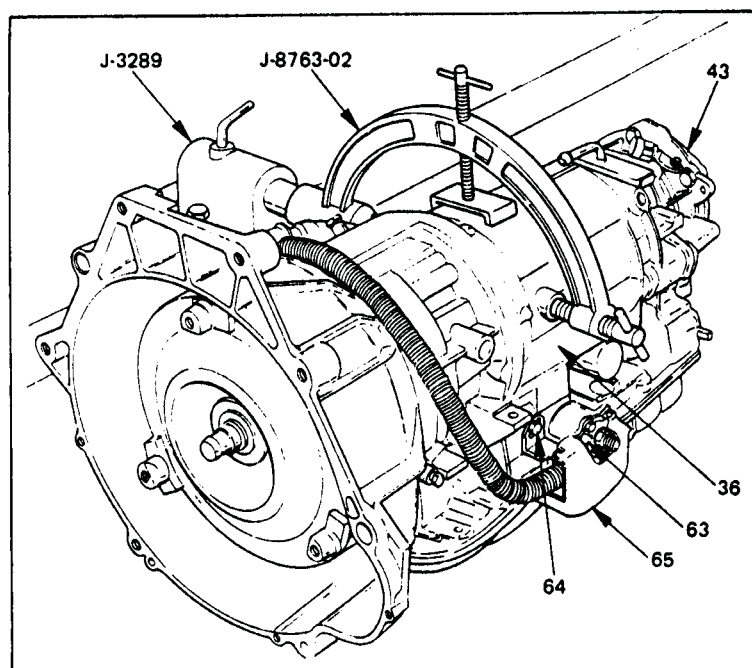

Figure 143
12. Rotate transmission to upright position and install torque converter, as shown in Figure 143.